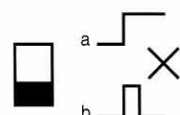

Fig. 1: Control mode selector
■ **reset handle:** it is the bottom "tripped" position when breaking has occurred due to: an overcurrent; or after breaking commanded by the shunt trip release (MX) or undervoltage release (MN). It enables visual indication of the tripped position of the circuit breaker ...
■ **plug-in connectors:** two in number, they enable the built-in auxiliary circuit breaker opening and closing signalling contacts (OF) and tripping on a fault contacts (SD) to be connected (terminals: 11, 12, 14, 15, 16, 18);
■ **control mode selector:** enables the type of order received on input X to be modified (fig. 1):